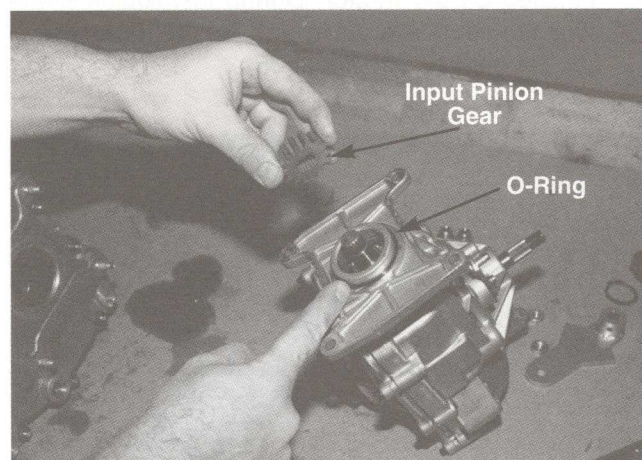

FIGURE 33.
33. Prior to installing the pump onto the housing be sure that the "O" ring is in place on the pump. Set the pump up on its end and install the input pinion gear on the pump shaft. See figure 33.